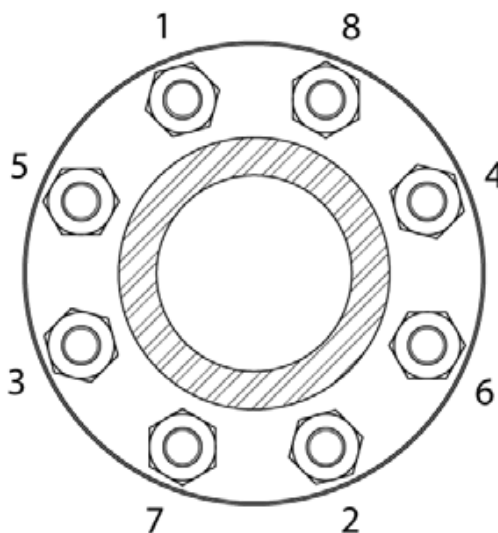

Figure 3-1. Bolt Tightening Sequence (8-Bolt Flanges)
2. First time around, tighten the nuts to 50% recommended torque following the sequence in Figure 3-1.
3. Second time around, tighten the nuts to 100% recommended torque following the sequence in Figure 3-1.